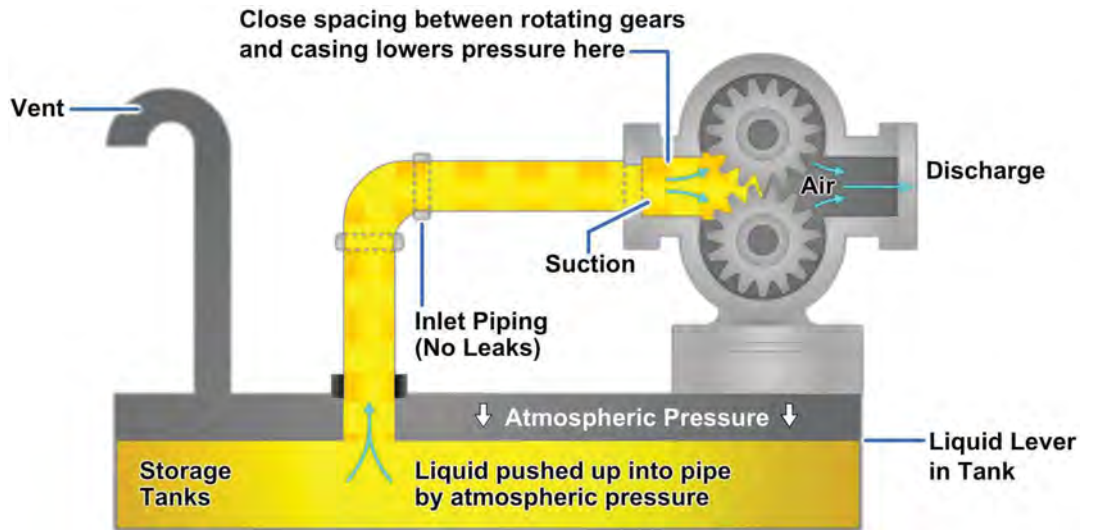

Figure 9-9 — Gear pump located above the tank.
*Figure 9-9* shows a gear pump located above the tank. The tank must be vented to allow air into the tank to provide atmospheric pressure on the surface of the liquid. To lower the pressure on the suction side of the pump, the clearances between the pump parts must be close enough to pump air. When the pump starts, the air is pumped through the discharge side of the pump and creates the low-pressure area on the suction side, which allows the atmospheric pressure to force the liquid up the